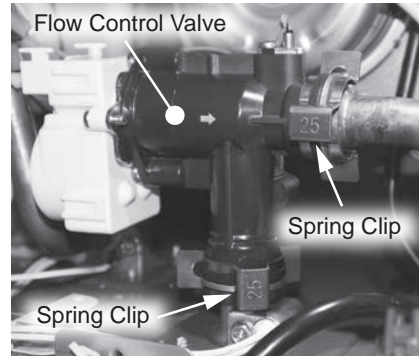

Figure 176 - Removing spring clips from flow control valve
15 Remove the two (2) spring clips (size 25) securing the flow control valve to the piping system. Place the spring clips aside in a safe place for reinstallation. See Figure 176.
21 Locate the two (2) spring clips previously removed in **Step 15**. Install spring clips to flow control valve, securing it to piping connections. See Figure 176. Verify water connections are tight and will not leak.